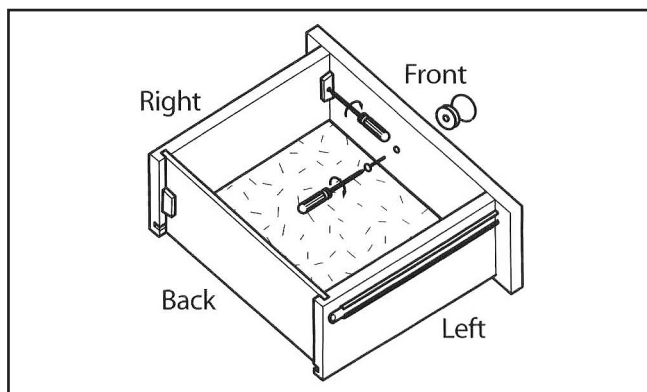

Figure 12. Final assembly.
23. Install the drawer fronts (**Figure 12**), the (Y1) knobs, and insert the drawers into their respective drawer slides.